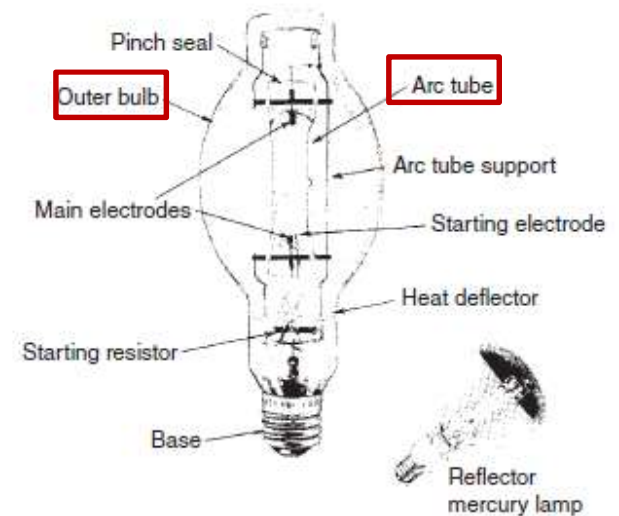

Fig. 15.16 Construction of a typical clear mercury-vapor lamp.
- The **outer glass bulb** (even a clear bulb) **absorbs most of the UV radiation** while transmitting light. (Fig. 15.16)